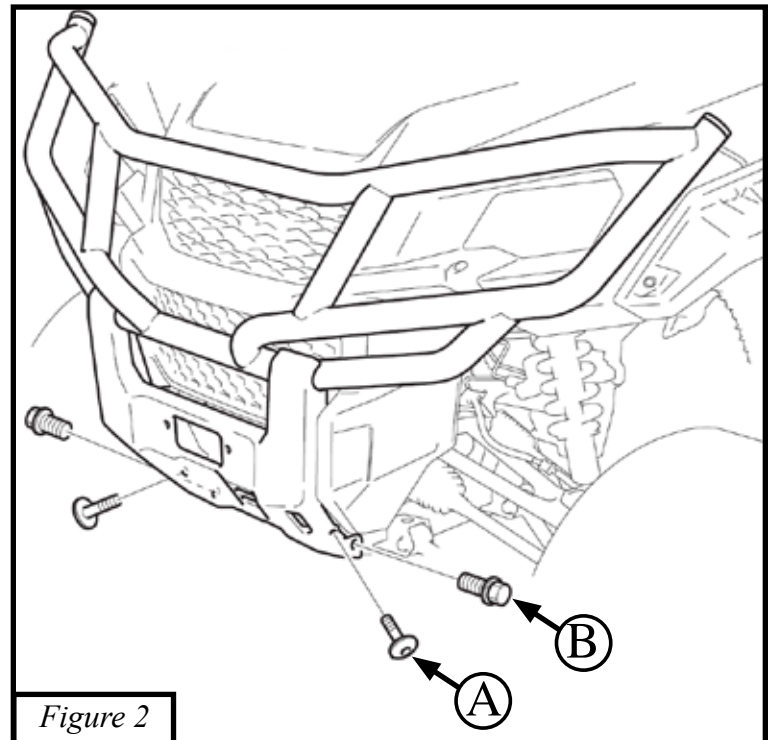
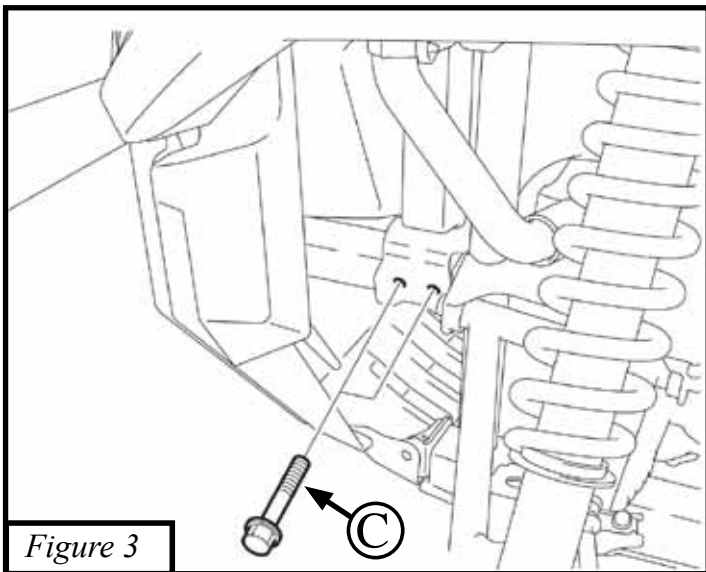

Figure 2
Figure 3
1. Remove the front bumper. Start by taking off the cap screws (A) holding the plastic to the bumper on each side. Remove the two bolts (B) on the bottom of the bumper as shown in Figure 2, and the four bolts (C) in the bumper tube as shown in Figure 3.